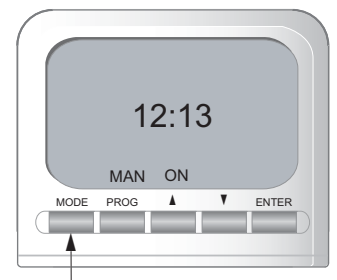

Fig. 7
**MAN ON** - this mode overrides the timer and the heat may be permanently ON. The heater may be controlled manually. See 'Manual Control' - see **Fig. 7**.